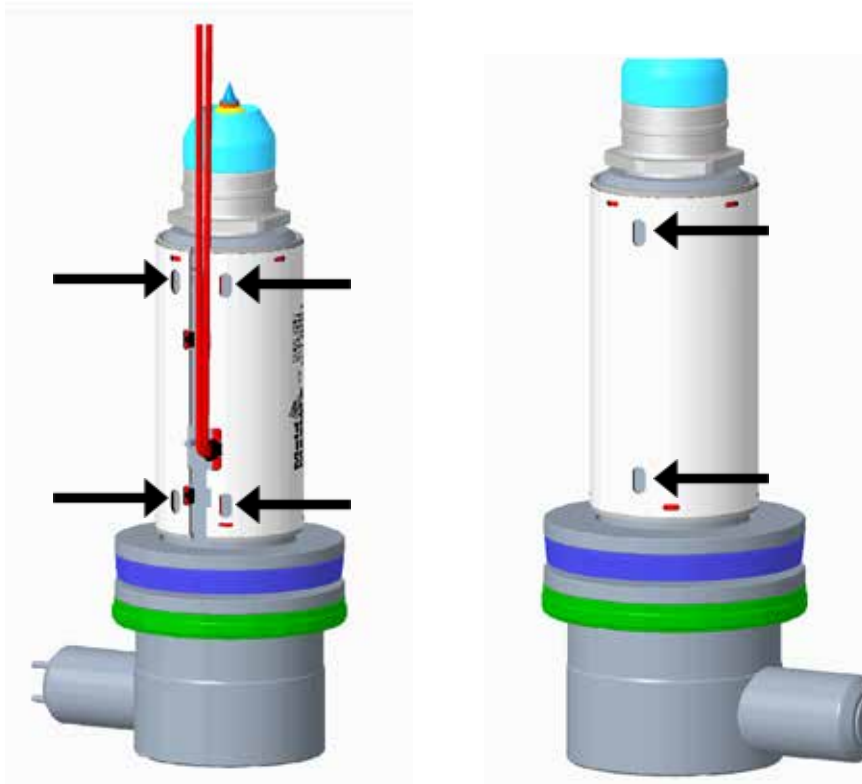

Figure 5-8 Slots on the emergency heater sleeve
2. Use the slots on the emergency heater sleeve to pull the emergency heater sleeve off the nozzle. See Figure 5-8.